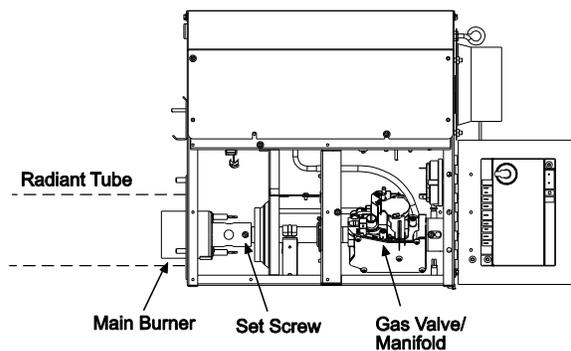

Figure 1
1. Loosen set screw of main burner (see **Figure 1**).